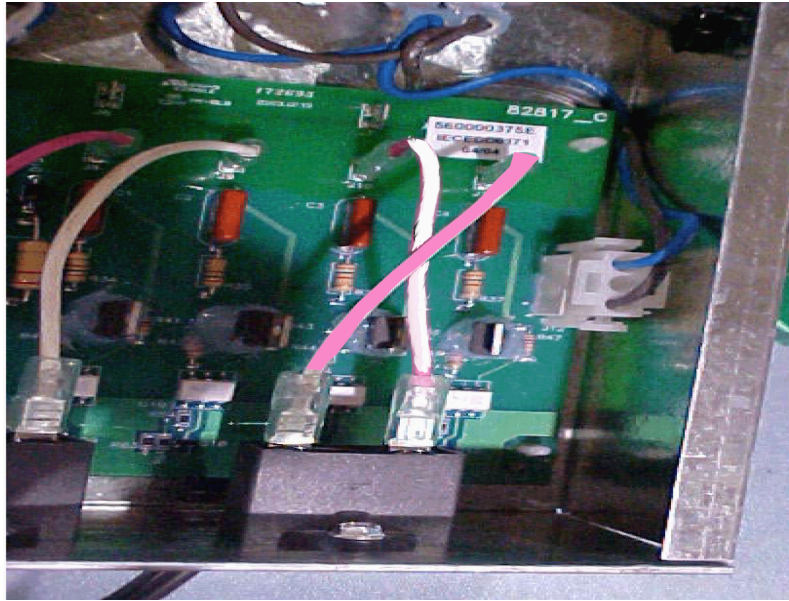

Figure 5: Connection of leads to the board
- 13) Run the motor harness into the electric box and connect the red wire to the capacitor spade adjacent to the red jumper, and the white lead to the capacitor spade adjacent to the white jumper. Connect the black lead to the board as shown in Figure 5.